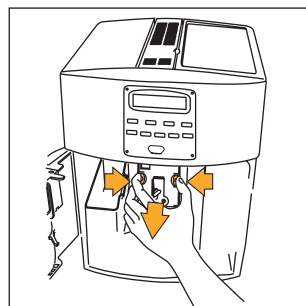

Fig.28
- press the two red release buttons on the infuser sideways and towards the centre (Fig. 28) and pull it out;